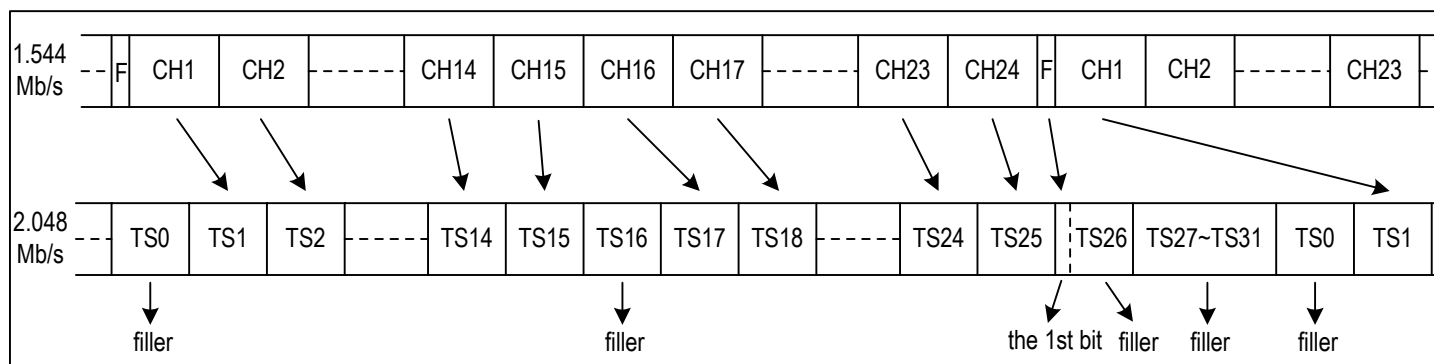

Figure 18. T1/J1 To E1 Format Mapping - G.802 Mode
1. T1/J1 Mode E1 Rate per G.802 (refer to Figure 18): Channel 1 to Channel 15 of Frame N from the device are converted into TS1 to TS15 of Frame N on the system side; Channel 16 to Channel 24 of Frame N from the device are converted into TS17 to TS25 of Frame N on the system side. The F-bit of Frame N from the device is converted into the first bit of TS26 of Frame (N-1) on the system side. TS0, TS16, TS27~TS31